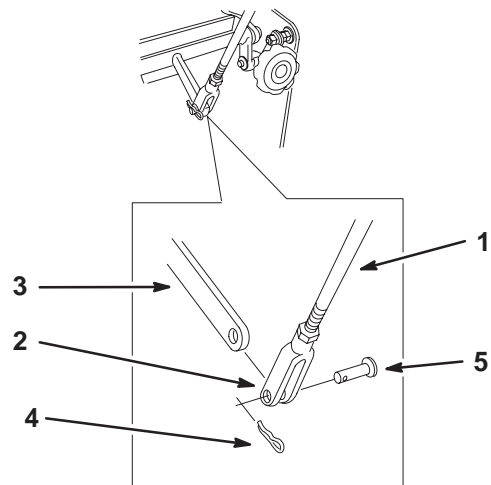

Figure 12
3. Install yoke end of speed control rod to the speed control crank with a clevis pin and hairpin cotter (Fig. 12).